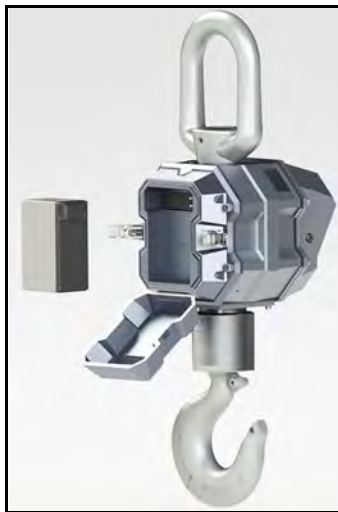

Figure 2-2. Remove Battery
1. Remove the battery from the MSI-4260 IS (Figure 2-2 on page 7).